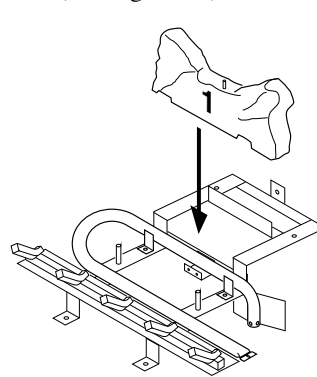

Figure 18 - Installing Log #1, Models CD32M/CD36M-A Series
1. Place log #1 (back log) on top of grate as shown in Figure 18. Make sure notches in bottom of log fit over grate.